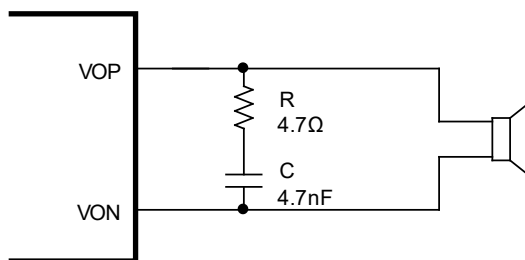

Figure 5. RC Snubber Circuit
4. For applications where the power supply is rated more than 4.6V or the load resistance less than 6 Ω , it is strongly recommended to add a simple snubber circuit (as shown in Figure 5) between the two output pins, VOP and VON, to prevent the device from accelerated deterioration or abrupt destruction due to excessive inductive flybacks that are induced on fast output switching or by an over-current or short-circuit condition.
For applications where the power supply is rated more than 4.6V or the load resistance less than 6Ω , it may become necessary to add an RC snubber circuit between the two output pins, VOP and VON, for robustness and reliability. Figure 5 shows a simple RC snubber circuit, which can be used to prevent the device from accelerated deterioration or abrupt destruction due to excessive inductive flybacks that are induced on fast output switching or by an over-current or short-circuit condition.